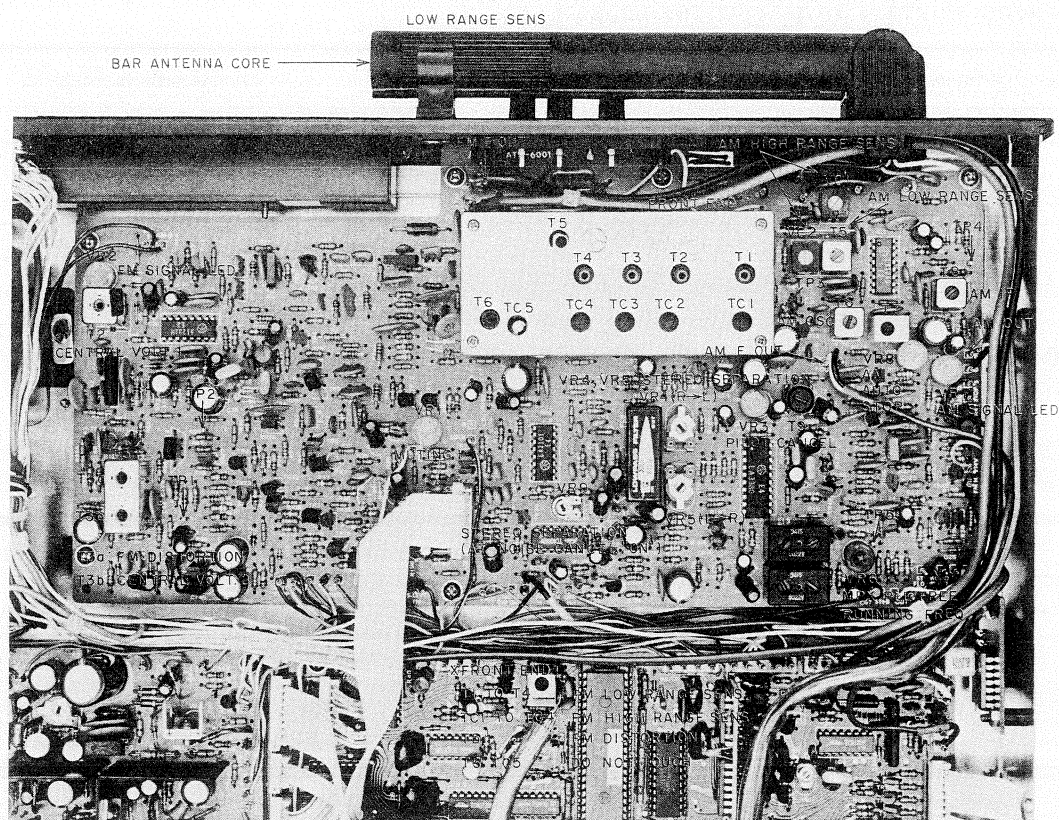

Fig. 10 Adjustment Points
3. Unless specified otherwise, test points and adjustment parts are provided on the Tuner P.C Board (Fig. 10).
1. Unless specified otherwise, test points and adjustment parts provided on the Tuner P.C Board (Fig. 10).